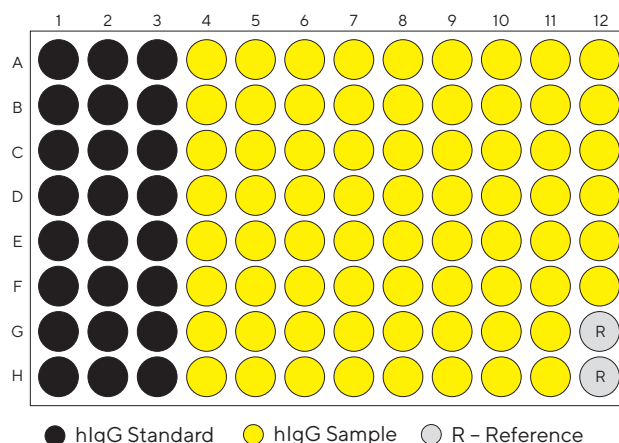

Figure 6: Example plate layout for a routine quantitation assay run in a 96-well microplate.
2. Set up a Basic Quantitation assay using the parameters described previously in the optimization experiments. See Figure 6 for example assay set up.